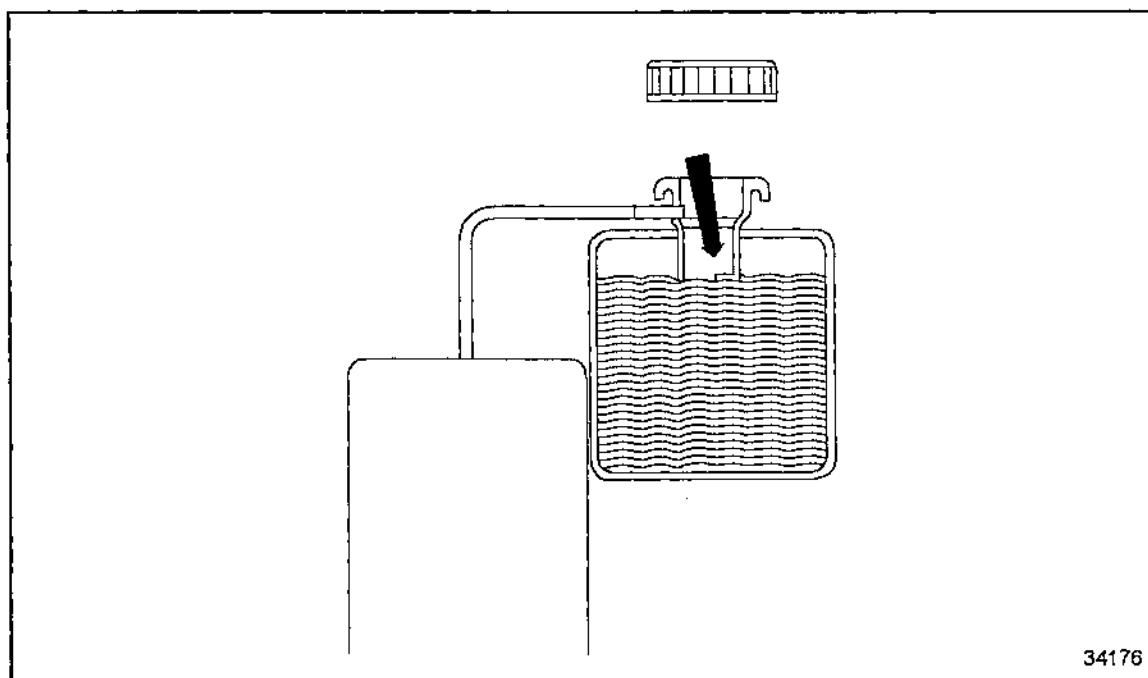

Figure 26 Check Coolant Level
2. Coolant must reach the bottom of the filling neck. See Figure 26.